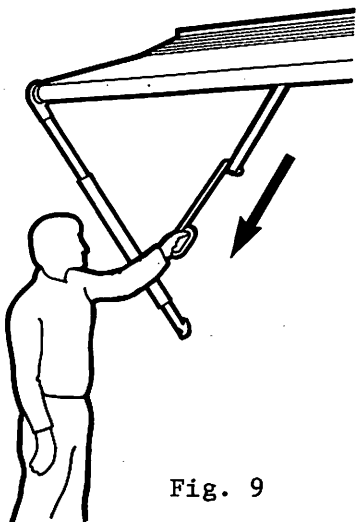

Fig. 9
- Step 2. Insert the pull rod into the loop of the center control strap and unroll the awning by pulling it toward you (Figure 9). Step under the awning and roll or fold the control strap toward the backside of the roller and tuck under the restraining strap.